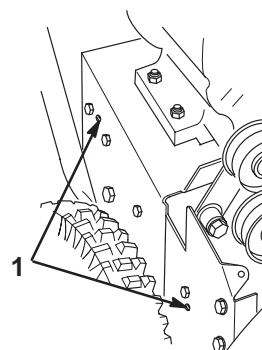

Figure 28
18. Install the 2 screws that secure the auger brake arm assembly. Ensure that the tabs fit into the holes in the left side of the snowthrower (Fig. 28).
14. Install the 2 screws that secure the auger brake arm assembly. Ensure that the tabs fit into the holes in the right side of the snowthrower (Fig. 28).